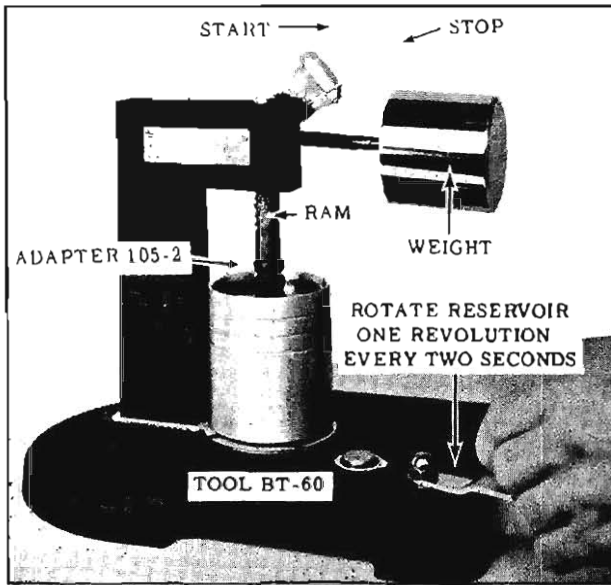

Fig. 3-411 Valve Lifter Bleed Down Test
12. Raise arm, then start test by resting ram on steel ball. Rotate reservoir one revolution every 2 seconds and time the indicator from the start to the stop line. (Fig. 3-411) Allowable leak-down rate is 8 seconds minimum for used lifters, and 12 to 60 seconds for new lifters.